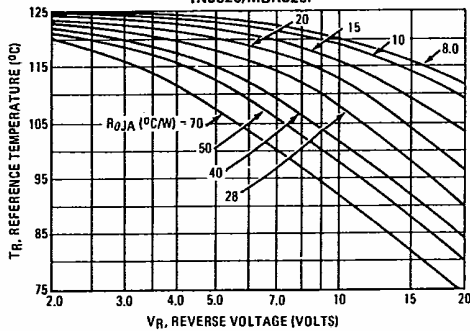

FIGURE 2 – MAXIMUM REFERENCE TEMPERATURE
Step 2. Find T_R from Figure 2. Read $T_R = 108^\circ\text{C}$